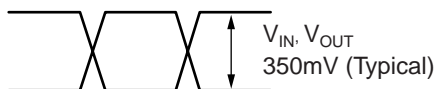

Figure 1c. Single-Ended Swing
8. See Figures 1c and 1d for  $V_{DIFF}$  definition.
- 12. See Figure 1c.